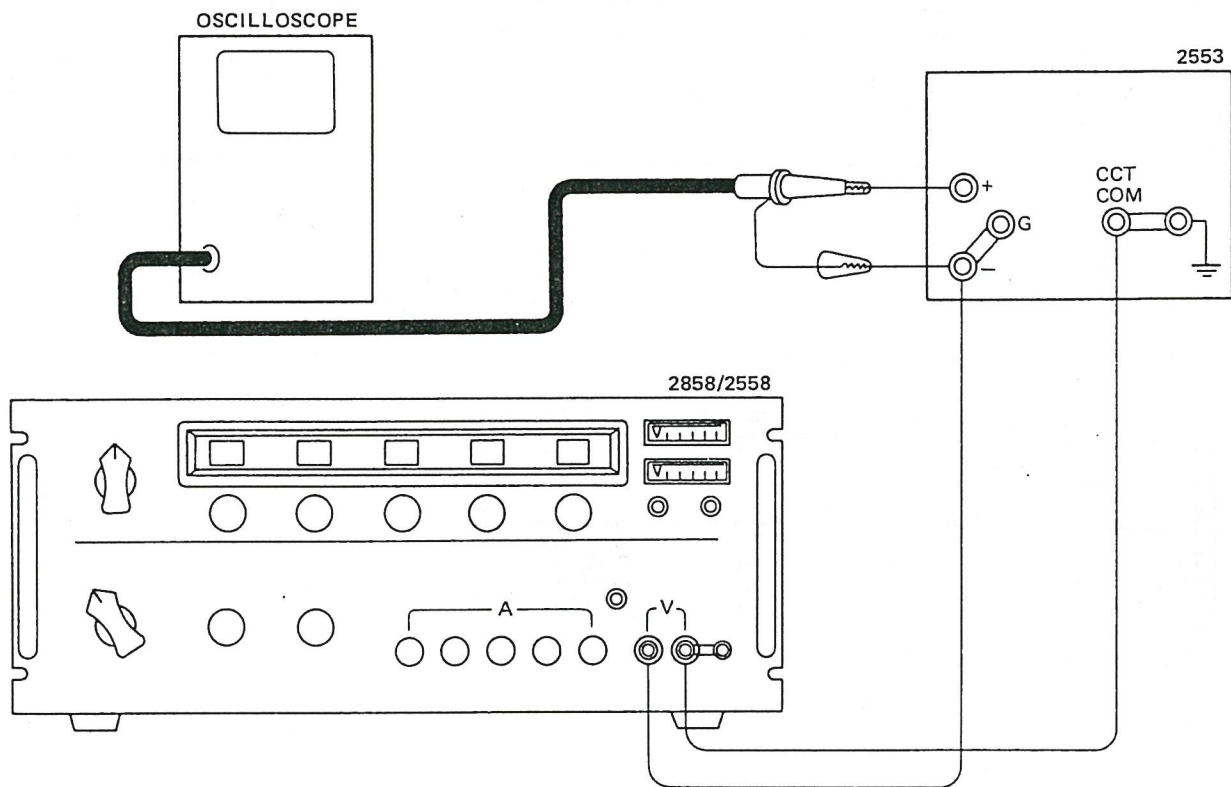

Figure 2-9. Setup for AC CMRR Inspection as Voltage Standard.
- a) Connect this instrument, oscilloscope and Type 2858 as shown in Figure 2-9.